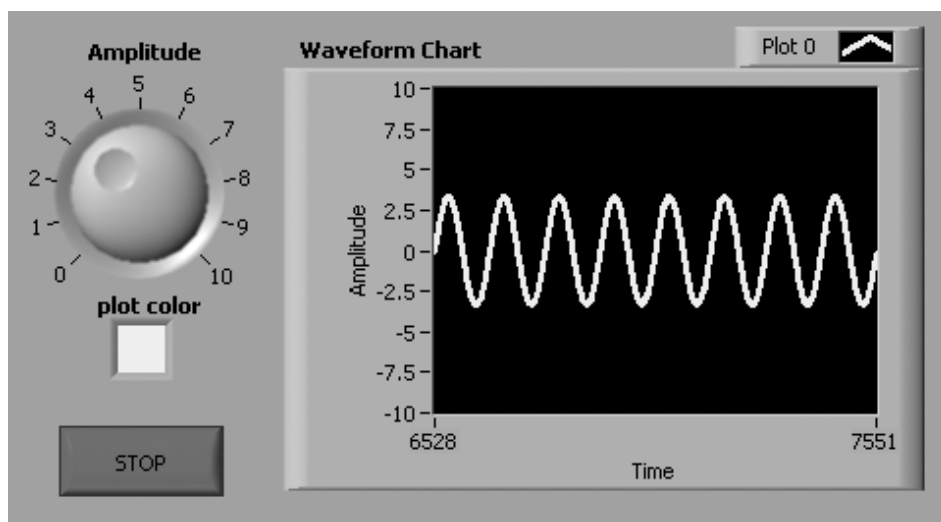

Figure 13.54
1. Create a VI with a waveform chart, a knob, a **framed color box** (the framed color box is a numeric control found on the **Modern>>Numeric** palette), and a stop button. Label the knob "Amplitude" and the color box "Plot Color," as shown in Figure 13.54.